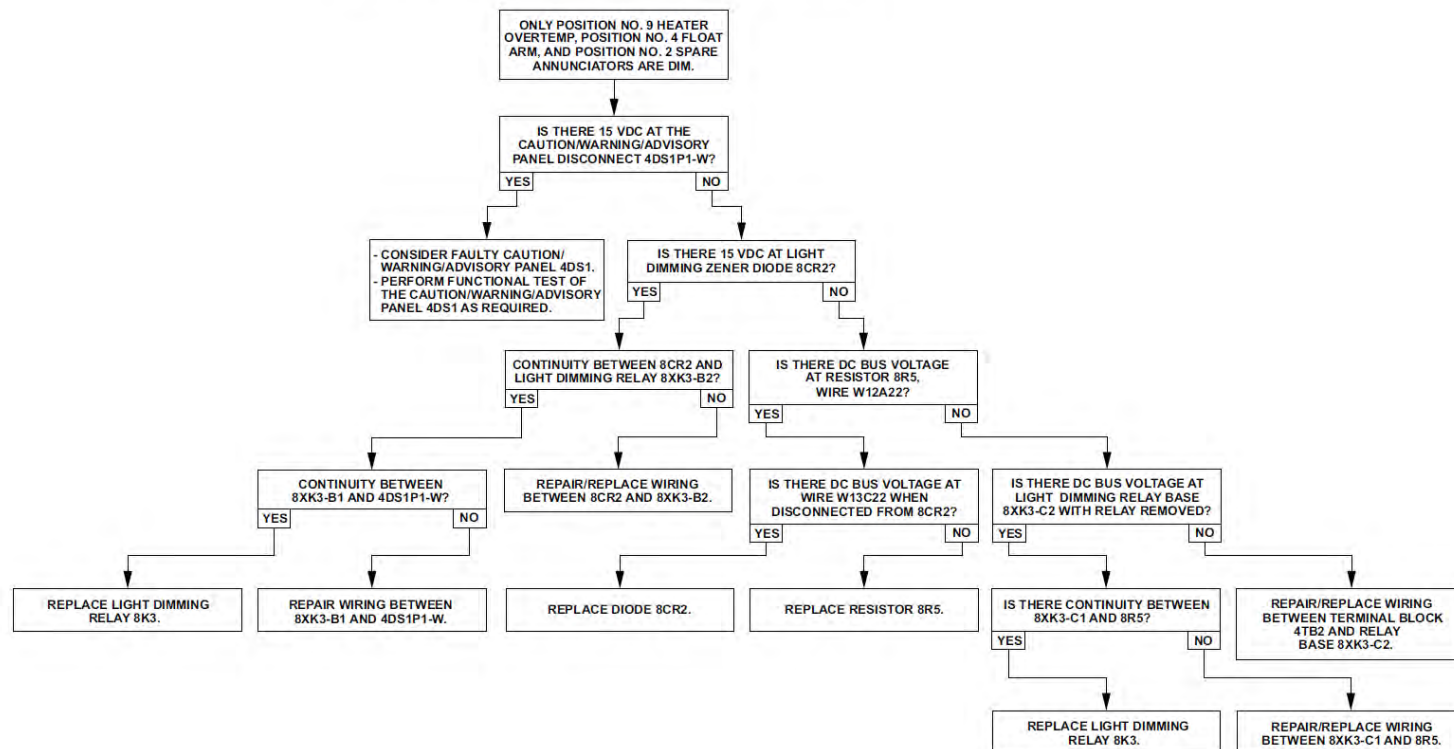

Figure 96-99: Caution/Warning/Advisory Panel Lighting and Dimming – Trouble No. 5
- If only the annunciators at positions No. 4 (FLOAT ARM), No. 9 (HEATER OVERTEMP), and the spare position No. 2 come on dimmed, refer to Trouble No. 5 (Figure 96-99).